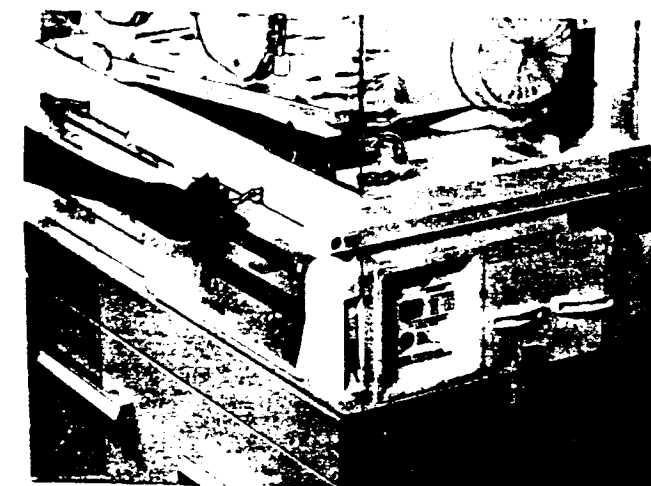

FIGURE 2.10 MATTRESS TILT HANDLES
- L. **CHECK MATTRESS ELEVATORS.** Rotate the right mattress tilt mechanism handle (Figure 2.10) clockwise until it stops. The right end of the mattress should be at a 9 degree angle. Rotate the handle counterclockwise until it stops. The mattress should be level. Repeat the procedure using the left mattress handle.